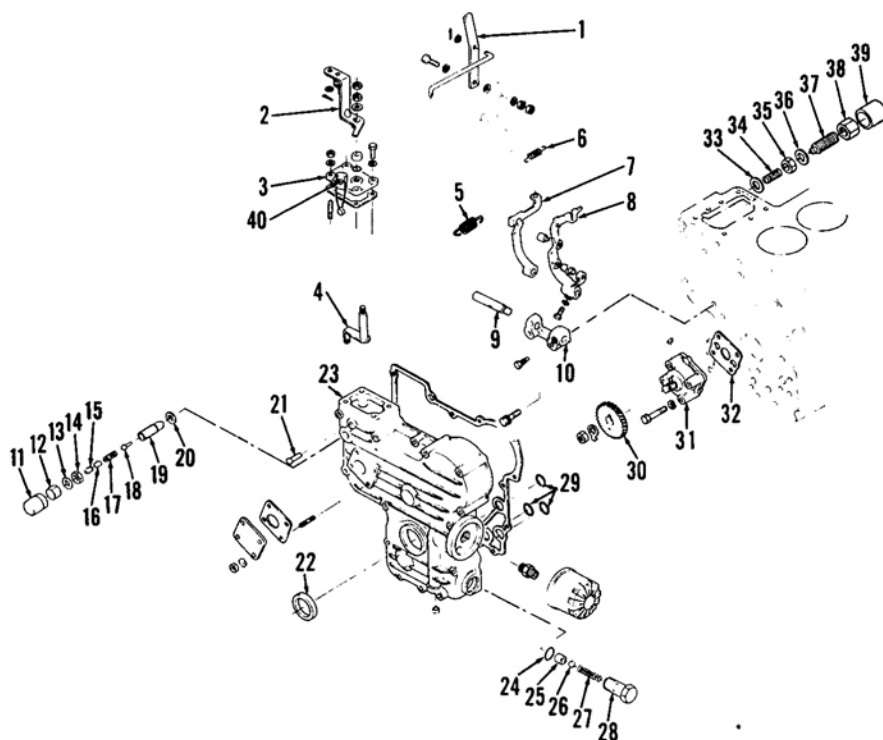

Fig. 16—Exploded view of timing gear cover and associated components. Be sure "O" rings (29) are in place when installing cover (23).
24. REMOVE AND REINSTALL. To remove timing gear cover, remove cover just below injection pump and detach governor spring (5—Fig. 16) from governor arm (7). Detach control linkage to control lever (2). If radiator obstructs crankshaft pulley removal, then drain coolant and relocate radiator. Remove fan belt and fan, then unscrew crankshaft pulley nut and using a suitable puller, remove crankshaft pulley. Unscrew and remove timing gear cover.
When installing timing gear cover, be sure the three "O" rings (29—Fig. 16) are in place. Tighten timing cover screws to 9.8-11.3 N·m (7-8 ft.-lbs.) torque. Tighten crankshaft pulley nut to 137.3-156.9 N·m (101-115 ft.-lbs.) torque.